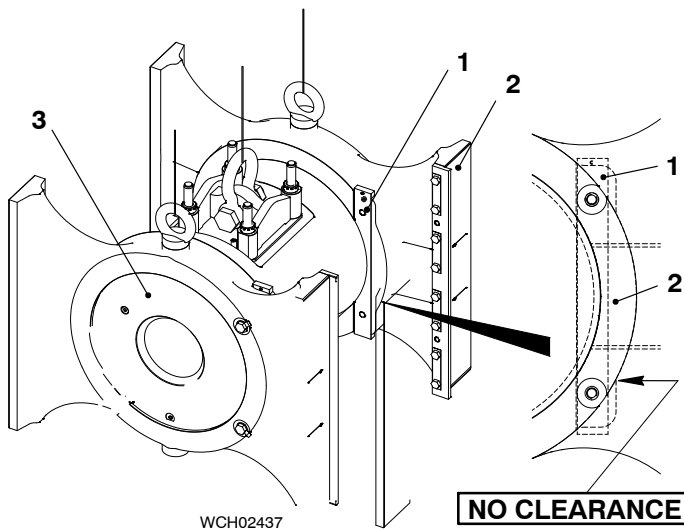

Fig. 12
19) Attach the two holding plates (1, Fig. 12) to the guide shoe (2) with the tab washers and the bolts.
20) Make sure that there is no clearance between the holding plates (1) and crosshead pin (3).